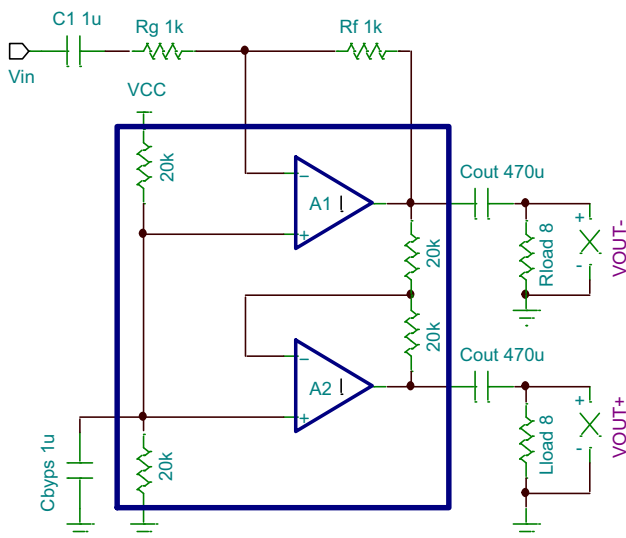

Figure 1. NCS2211 Single-ended (SE) Configuration
The single-ended (SE) amplifier is the basic configuration in audio applications. The SE configuration is often used to drive two speaker loads or headphones. The block diagram in Figure 1 illustrates an SE configuration since the load is connected to both amplifier outputs.
The amplifier shown in Figure 1 uses a single supply connection in conjunction with two internal 25 kΩ resistors to create a DC bias, equivalent to  $V_{DD}/2$ , on the non-inverting inputs of amplifiers A1 and A2. This allows a bipolar signal to swing around this common DC bias point.
The frequency response must also be considered when using coupling capacitors. Referring back to Figure 1,  $C_{IN}$  and  $R_g$  create a high pass filter network. The gain and feedback resistors may be sized to allow a small value capacitor to be used where a typical value for  $C_{IN}$  is 1  $\mu F$ . In order to avoid attenuating the lower frequencies of the audio range, the input network must be sized appropriately according to the following equation: